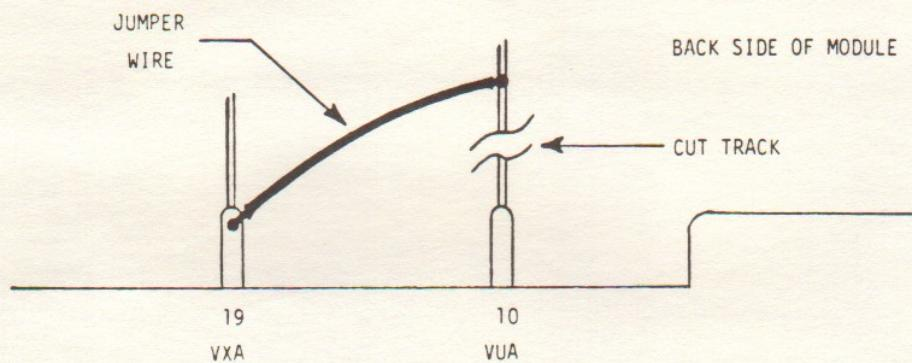

FIGURE 3-1. Assigning EXORciser I Modules to VXA
- d. Dual map capability requires that all peripherals and memories must be able to be assigned to the proper map (by VUA or VXA). All EXORciser I modules will automatically respond to VUA when operating with MM17. To assign these modules to VXA, the user must modify the individual modules by cutting and jumpering a single connection at the edge connector of the EXORciser I module. The modification is the same for all EXORciser I modules, and is illustrated in Figure 3-1. Cut the incoming VUA track